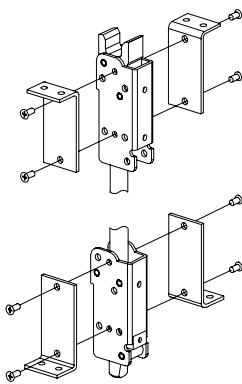

Figure 1-1
- 1.1. For hollow metal door, attach latch brackets to sides of top and bottom latches with #10-32 x 1/4" UFPH machine screws (Figure 1-1).